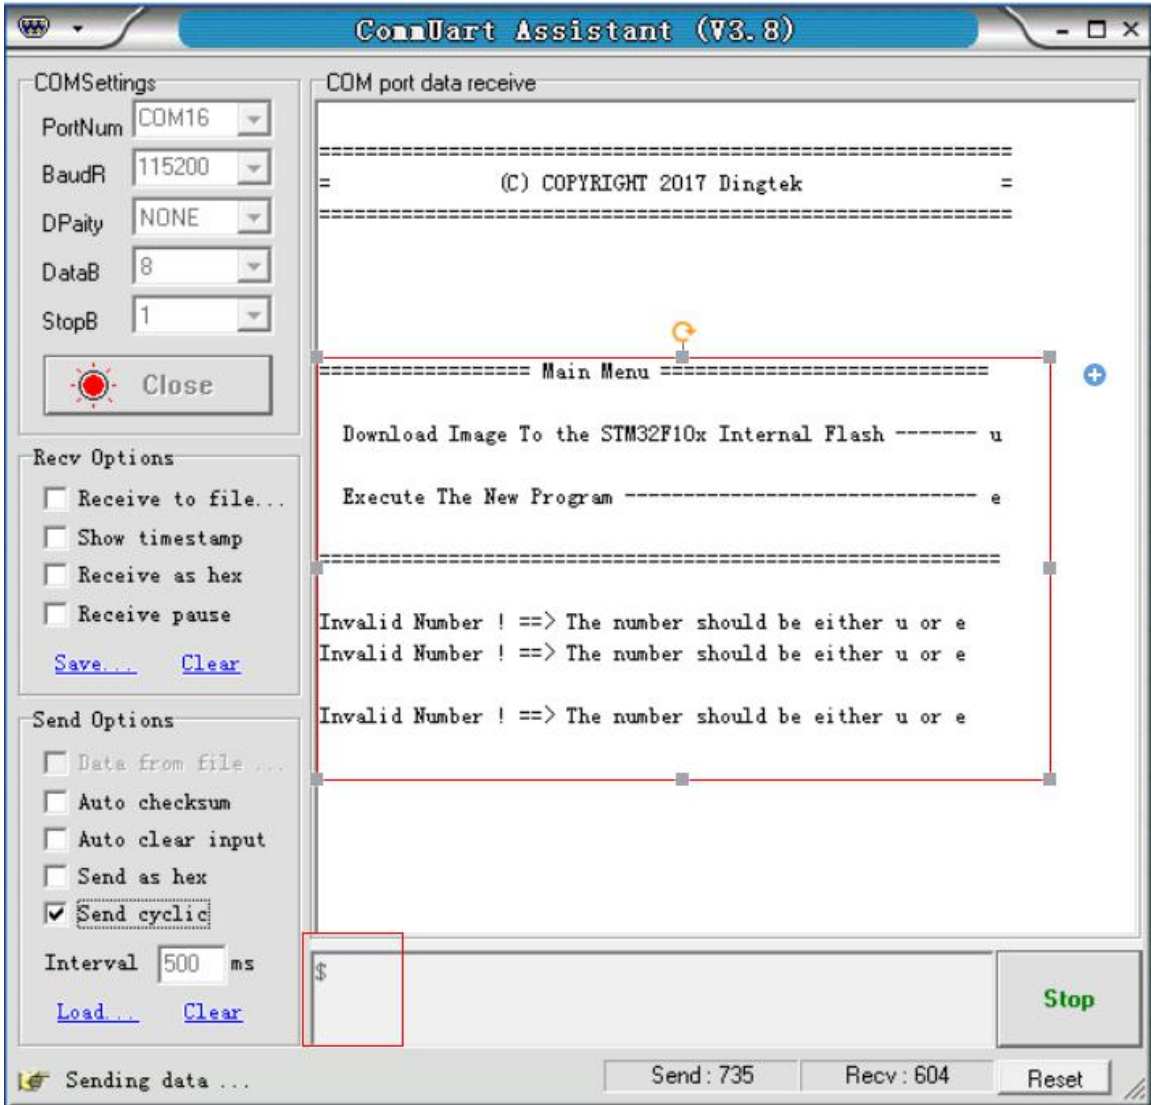

Figure7.6
7.4.3 Restart the device you can see as given Figure 7.6 .Next input is u click on the line and Click send you can gets output result: cccccc
1. If you cannot confirm the results of figure7.6 on the serial port software please checks connection of RX, TX and TTL device.